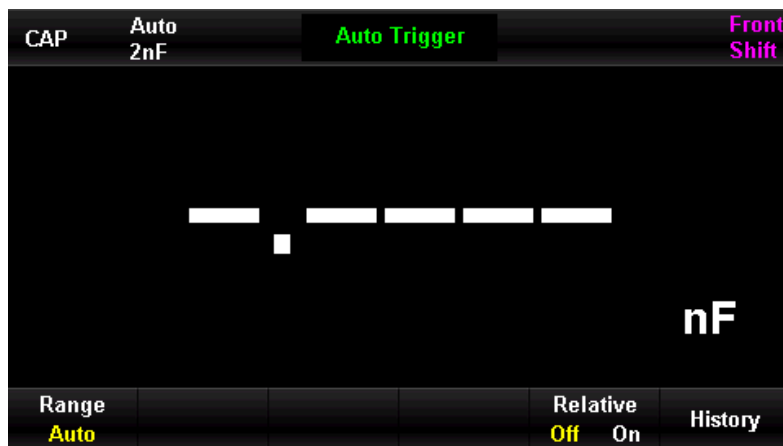

Figure 0-28 Capacitance Measurement Menu
- As shown in Figure 0-28, connect the test leads to the signal to be measured, the red test lead to the "Input-HI" terminal and the black test lead to the "Input-LO" terminal.